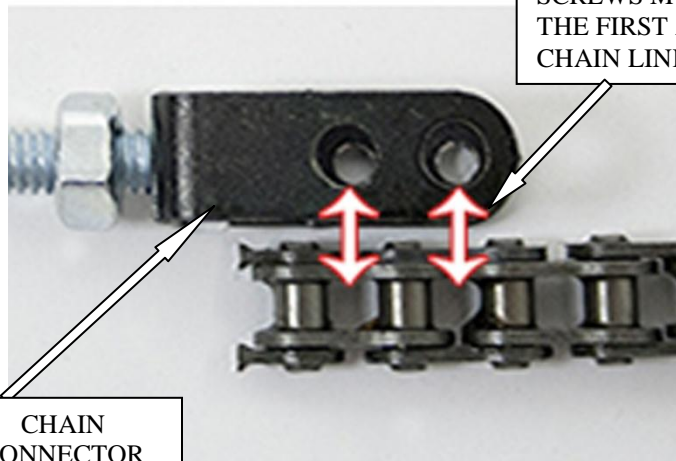

Fig. 2
- Step 5** At the chain connector bracket, remove one screw at a time and replace it with a new screw. If the bracket is damaged or bent, take a picture of the bracket, remove the chain nut and replace with the supplied chain connector bracket. See figure 2 & 3. Tighten both the screws. Repeat the screw replacement for both screws of all 4 chain connector brackets.